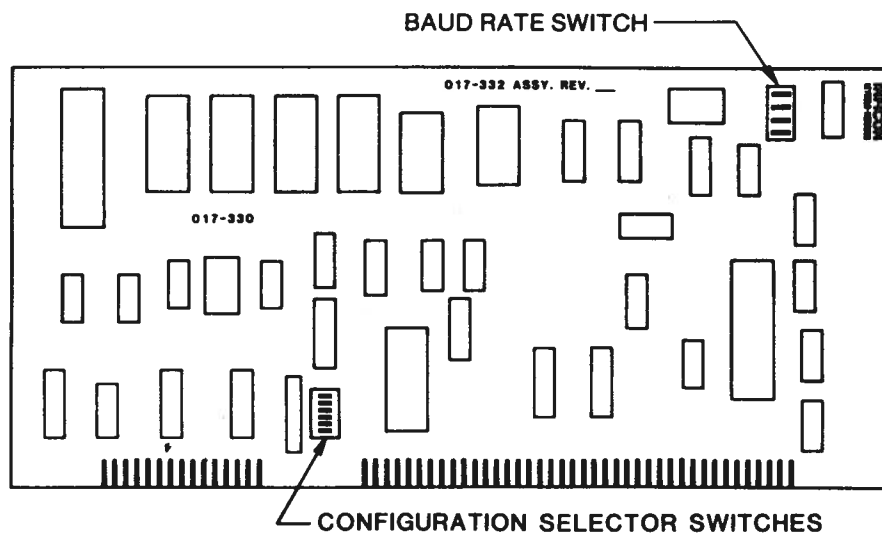

Figure 7.3 Configuration Selector Switch
3. To change the settings on the communications configuration switches, refer to Figure 7.3 for connection locations.